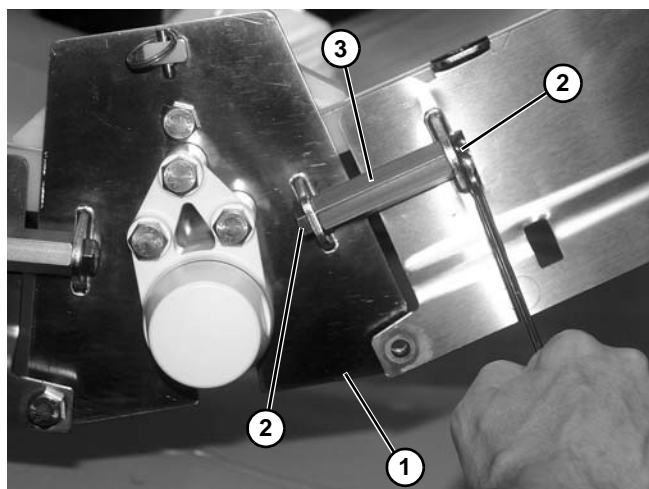

Figure 11
1. Attach lower knuckle (**Figure 11, item 1**) to frame using two screws (**Figure 11, item 2**) and a connector (**Figure 11, item 3**) on each side of the upper knuckle assembly.